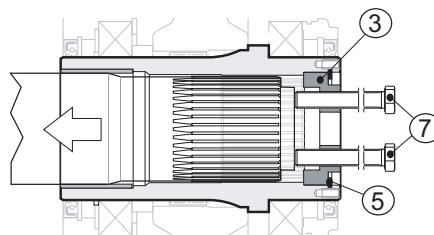

Fig. 20
Insert 2 bolts (pos. 7) into the two threaded holes on the plate (pos. 3) and screw them until they touch the machine shaft (pos. 1). Now give them alternately one full turn each (see Fig. 20 (p. 27)).